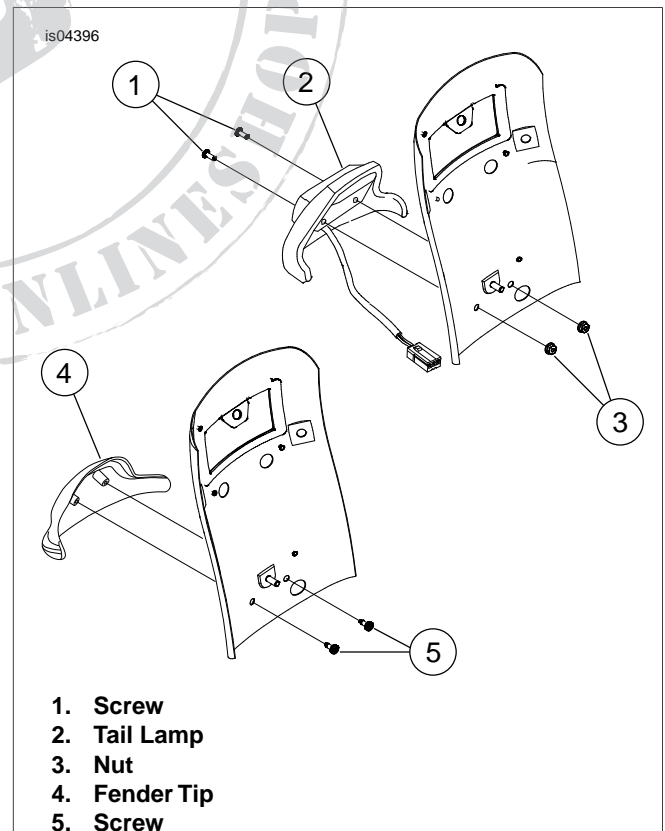

Figure 2. Rear Fender Tip and Tail Lamp
6. See Figure 2. Holding inner fender nuts behind fender tip lamp, remove two TORX® screws (1) to release fender tip lamp base (2). Pull lamp away from fender to draw out wire harness.
1. See Figure 2. From underside of fender remove two screws (5) and fender tip (4) from fender.